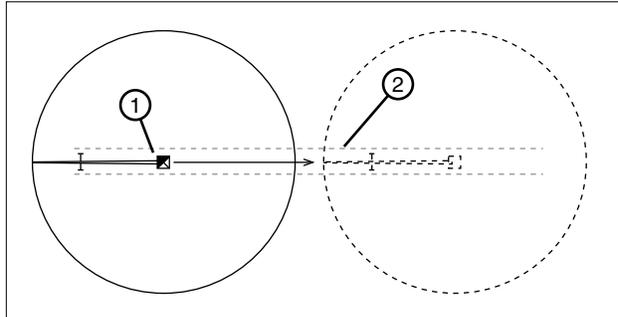

Figure 32-1 1. Machine
1. Position the machine in the tow lane. See figure 32-1.